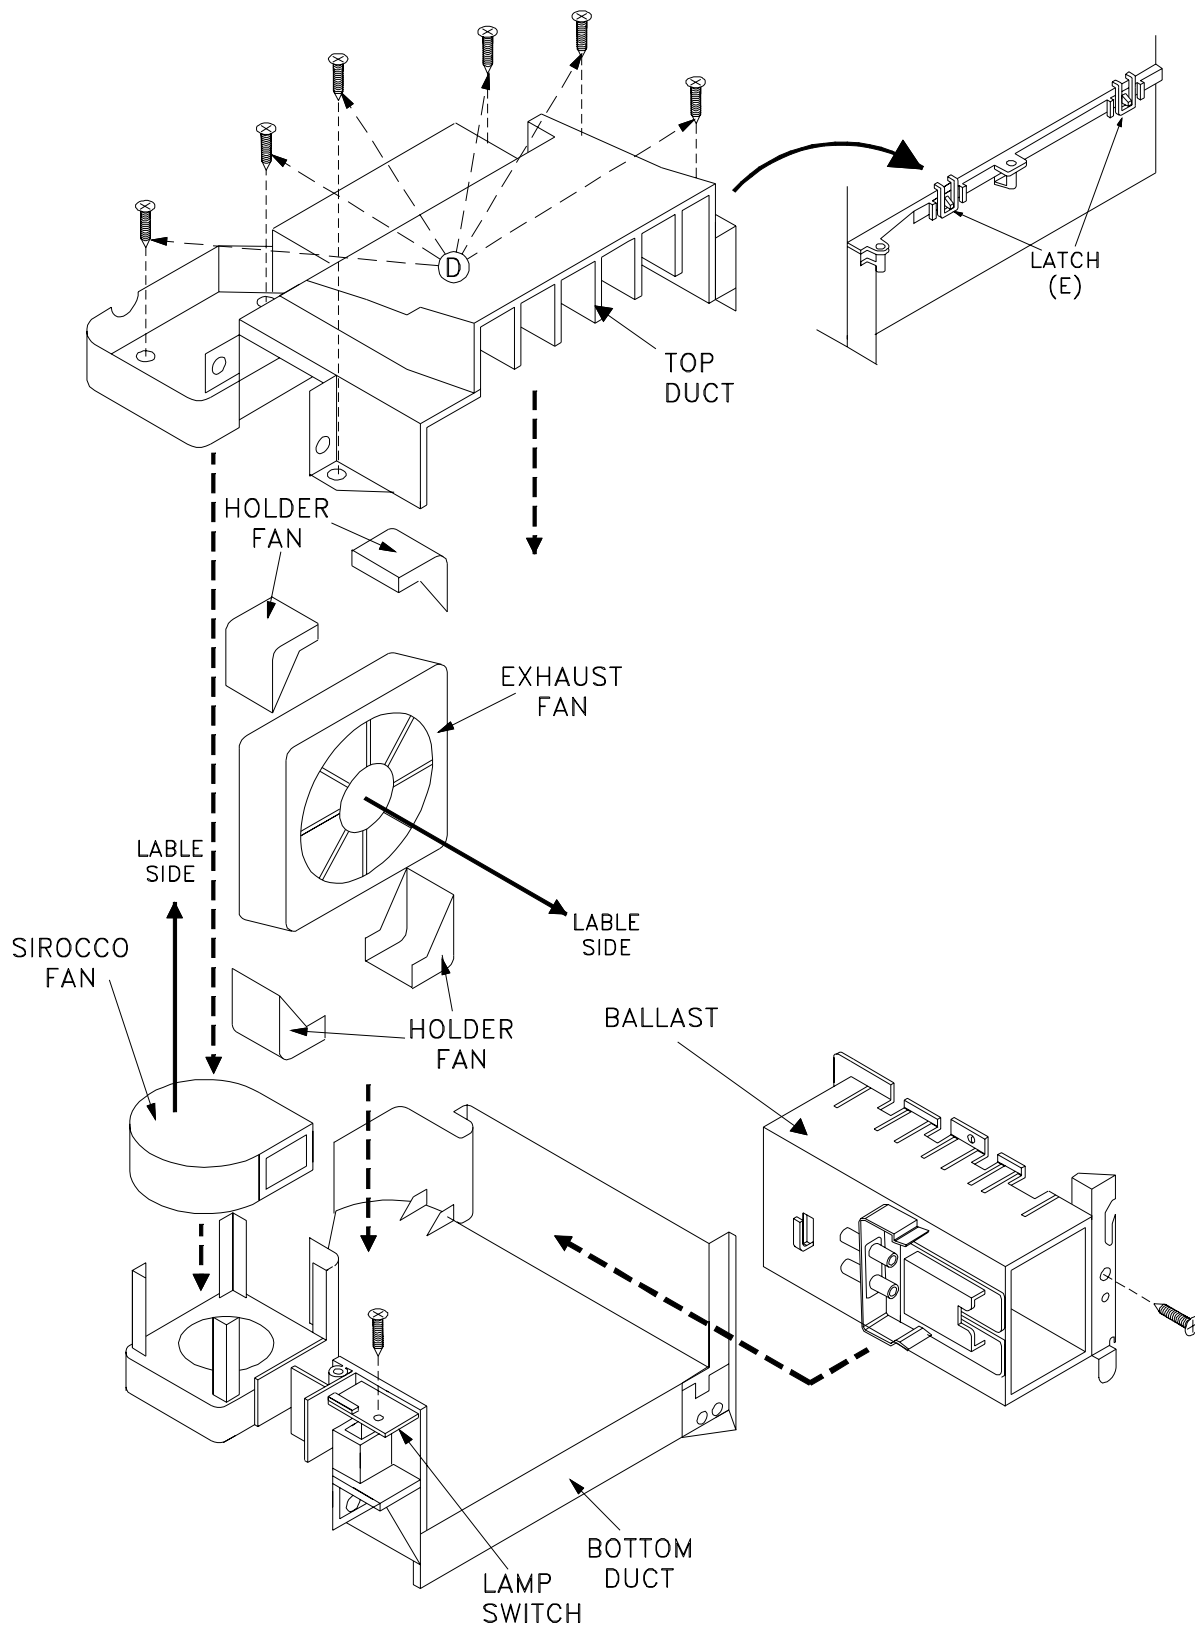

Figure 3: Optical Engine Sub Assembly (Exploded View)
- 5) Remove 6 screws (D) from the upper duct (Figure 3).
- 6) Release the 2 latches (E) between the upper and lower ducts (Figure 3).